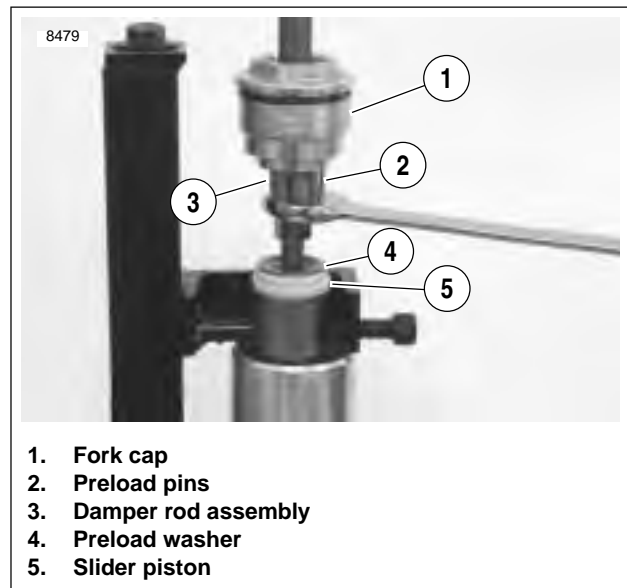

Figure 2-65. Holding Damper Rod Assembly
7. See Figure 2-65. Hold damper rod assembly (3) and remove fork cap (1).